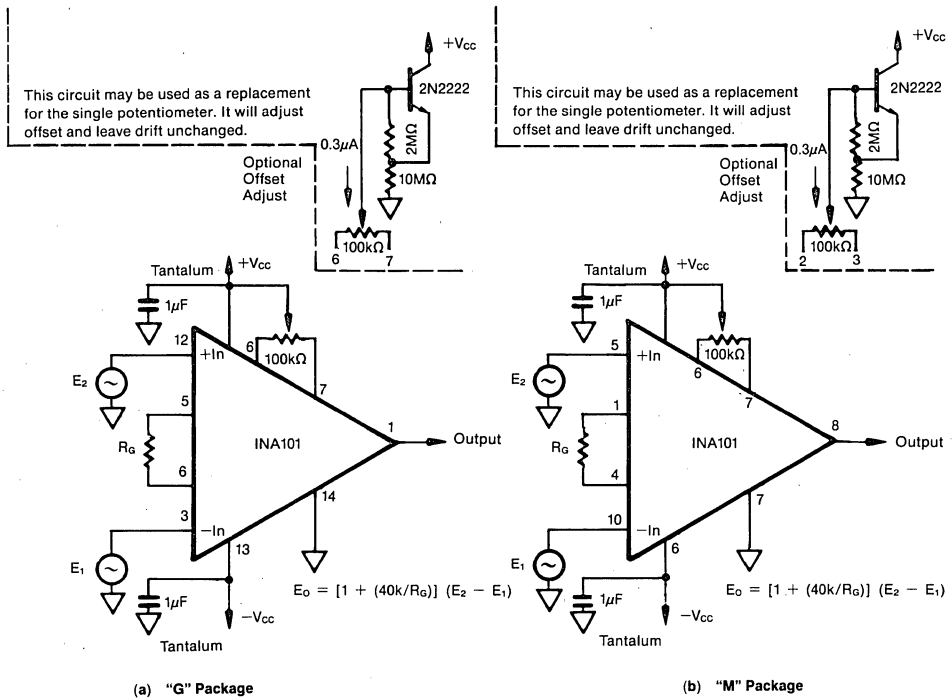

FIGURE 4. Basic Circuit Configuration.
8.2 Using the INA101. Figure 4 shows the simplest configuration of the INA101. The gain is set by the external resistor, R_G , with a gain equation of $G = 1 + (40k/R_G)$. The reference and TCR of R_G contribute directly to the gain accuracy and drift.